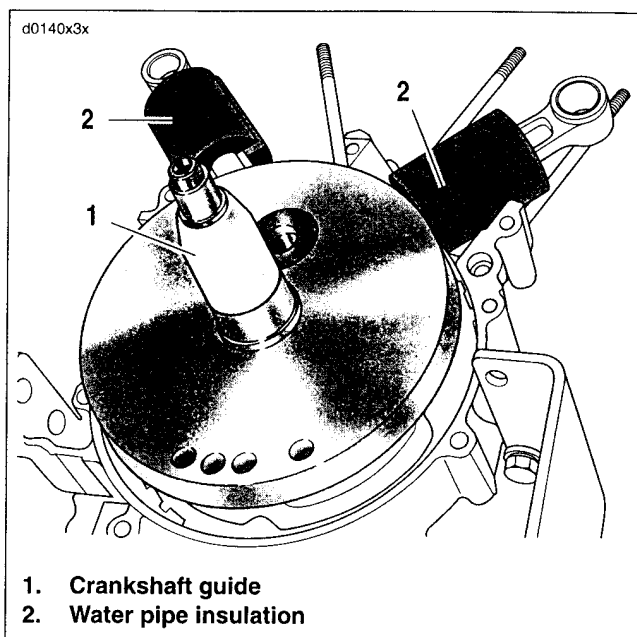

Figure 3-61. Crankshaft Guide (Part No. HD-42326-A)
7. See Figure 3-61. To facilitate assembly and prevent damage to the crankshaft (roller) bearing in the right crankcase half, place CRANKSHAFT GUIDE (1) (Part No. HD-42326-A) over end of crankshaft until it contacts shoulder on shaft.